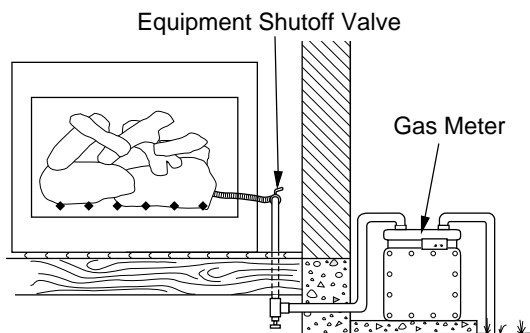

Figure 5 - Checking Gas Joints
1. Close equipment shutoff valve (see Figure 5).
3. Check all joints from gas meter to equipment shutoff valve (see Figure 5). Apply a noncorrosive leak detection fluid to gas joints. Bubbles forming show a leak.